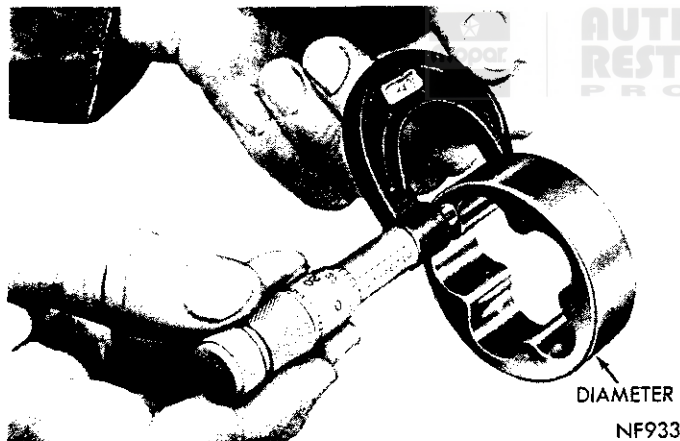
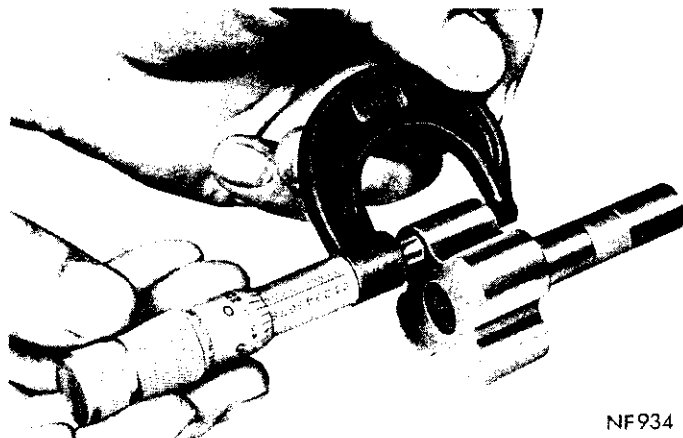

Fig. 52—Measuring Outer Rotor Thickness
Fig. 53—Measuring Inner Rotor Thickness
- (3) Measure diameter and thickness of outer rotor. If outer rotor measures less than .825 inch (Fig. 52) and the diameter is less than 2.469 inches, install a new outer rotor.
- (4) Measure thickness of inner rotor.
- (5) If inner rotor measures less than .825 inch, a new inner rotor should be installed (Fig. 53).